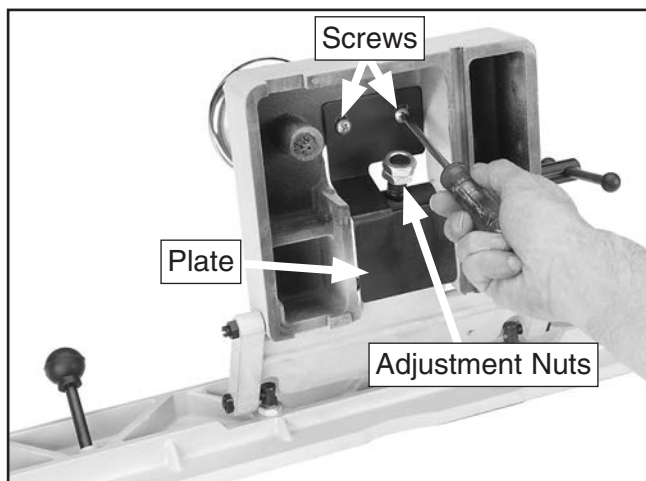

Figure 60. Removing plate to access inward fence stop.
1. Remove the fence assembly from the jointer, remove the Phillips head screws from the plate shown in **Figure 60** under the fence carriage. The plate must be removed to access the adjustment nuts.